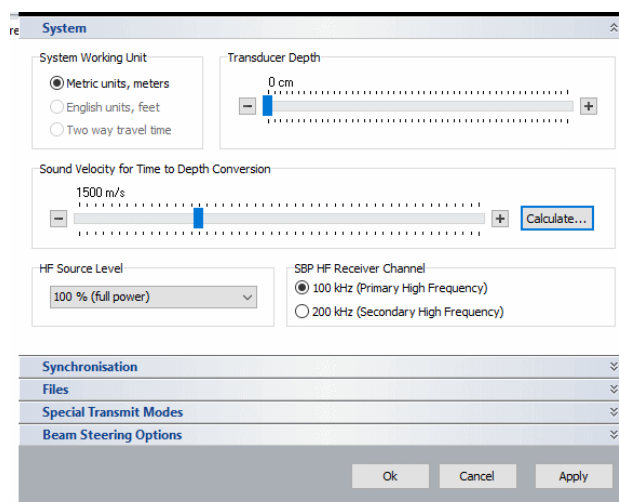

Figure 13: System Setup, General - System
- **System:** Transducer Depth is the depth of the transducer’s bottom below water surface. If set to 0 (zero) all echo plots and depth values are related to the transducer’s face (bottom). Measured or estimated sound speed is used for all depth calculations and has to be set properly. A value of 1500 m/s is adequate (Figure 13) in most cases. HF source level can be reduced in very shallow waters. You can switch between primary and secondary frequency to be received by the HF data channel. However, transmitted frequency will always be ca. 100kHz.